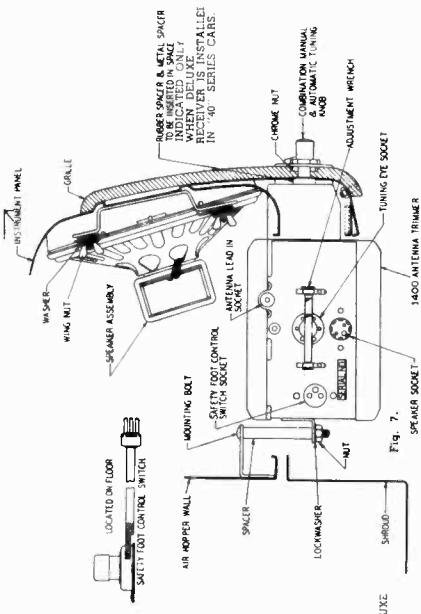

Fig. 7.
(A) The automatic station adjusting eye is plugged into the socket on the receiver. (See Fig. 7)